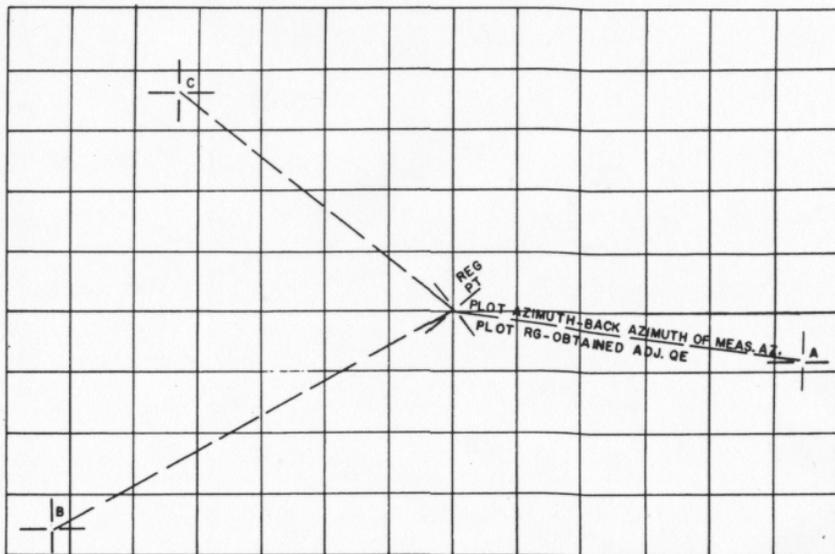

Figure 4. Plotting positions of batteries on an observed fire chart.
(1) Inspected map. Normal artillery procedures would be used if maps were available. Battery positions would be located by inspection, and the positions of encircling forces would be plotted according to reported locations.
(2) Observed fire chart. Immediately after occupation of position, the air observer could begin registering the batteries on a common registration point in the guerrilla area. The adjusted data would enable chart operators to construct an observed fire chart in a normal manner, back-plotting the batteries from an assumed registration point (fig 4).